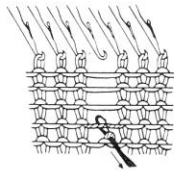

Fig.49-2
- b) Pull the needle back so that the loop closes the latch over the strand caught in the needle hook. (Fig.49-2)